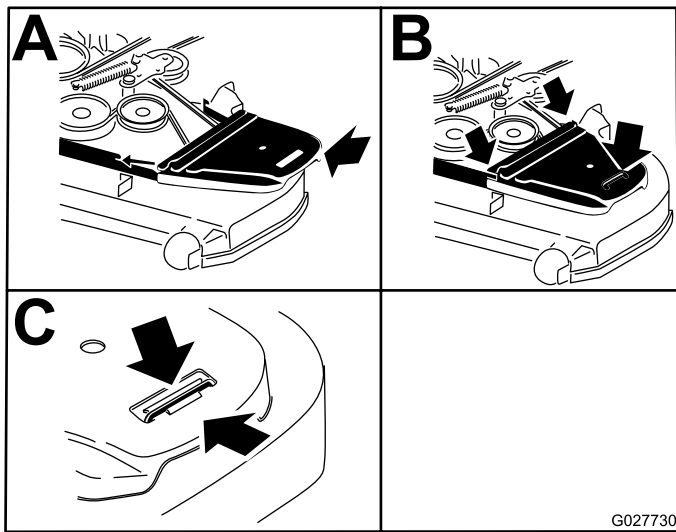

Figure 88
12. Install the belt covers (Figure 88).